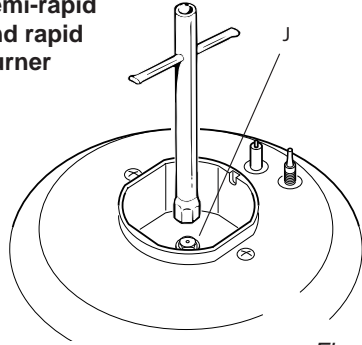

Fig. 5.3a
- Using a wrench, substitute the injectors "J" (figs. 5.3a, 5.3b, 5.3c, 5.3d) with those most suitable for the kind of gas for which it is to be used.